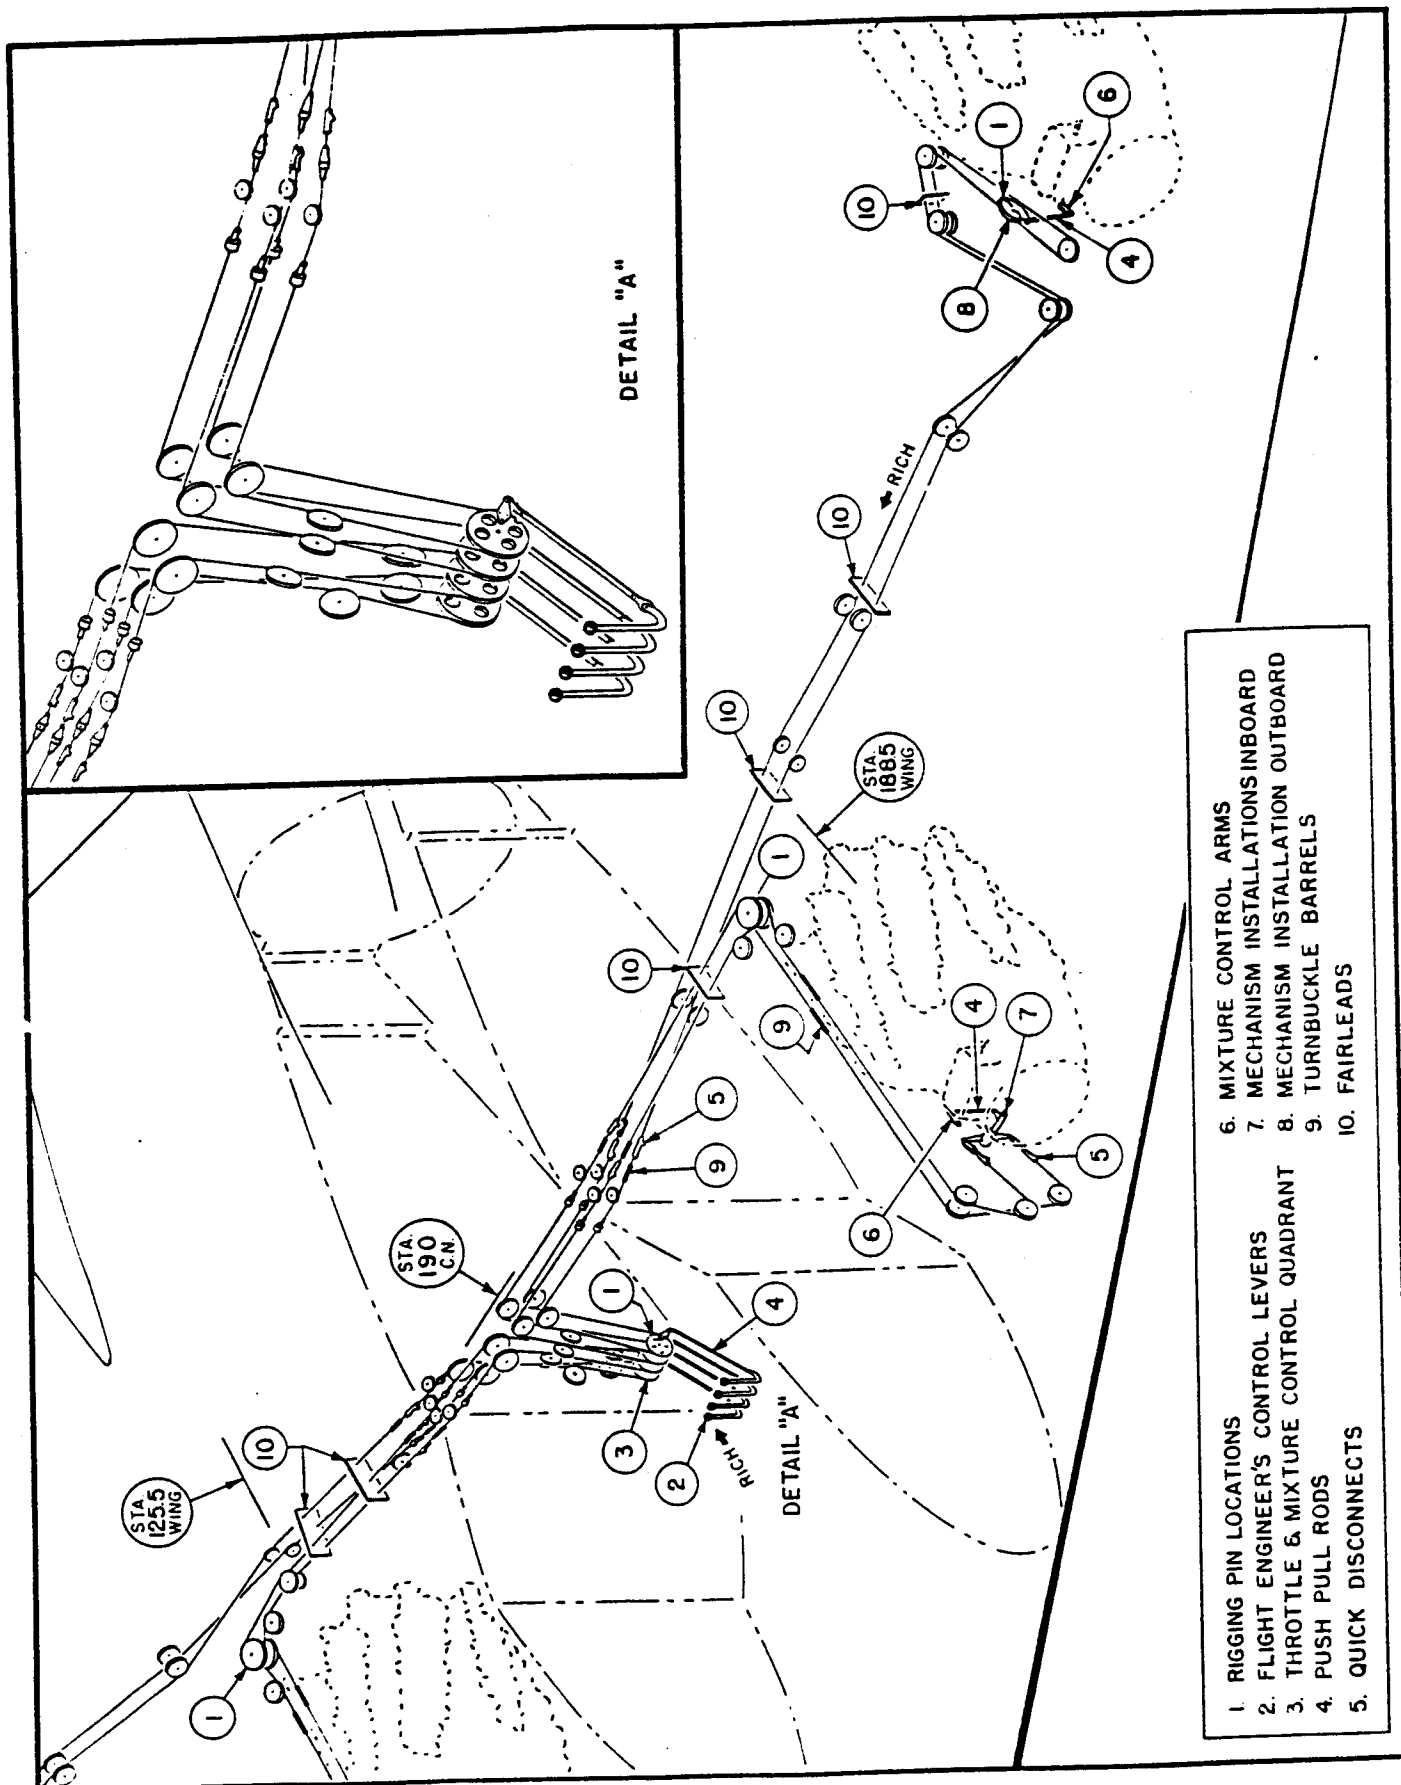

Figure 2. Mixture Control System
d. MIXTURE. (See figures 2 and 5.)
(1) DESCRIPTION.- One throttle lever, located in the flight engineer's compartment, is linked to the carburetor as illustrated in figure 2.
(2) REMOVAL.- The mixture control cables are removed in essentially the same manner as the throttle cables. Refer to paragraph 9 c (2) and to figures 2 and 5.
(3) INSTALLATION. (See figures 2, 5, 7, 8, and 9.)